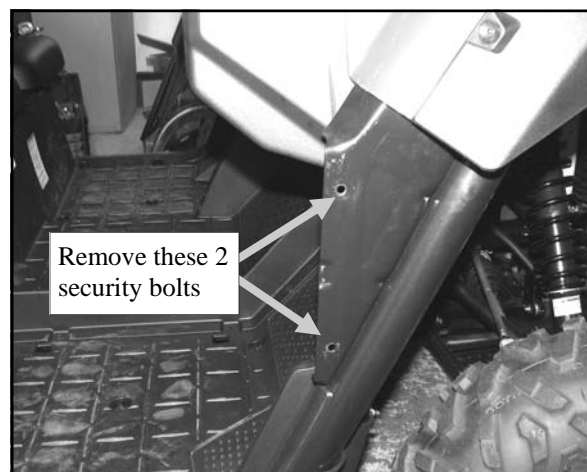

Fig. 1.1 (View of front right corner)
1.1 See fig. 1.1. Remove both factory lower quarter doors. Note: there are two security screws per door.